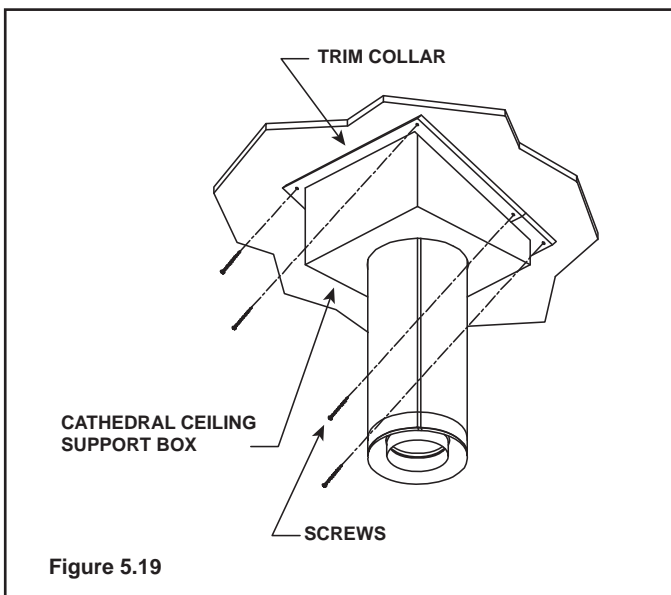

Figure 5.19
8. Install the black trim collar around the outside of the cathedral ceiling support box (Figure 5.19). The two pieces of the trim collar slide over one another to allow for easy adjustment around the support box. Using the six screws provided, secure the four corners and the overlapping sections of the trim collar to the ceiling. You may want to predrill the holes for the overlapped sections for ease of installation.